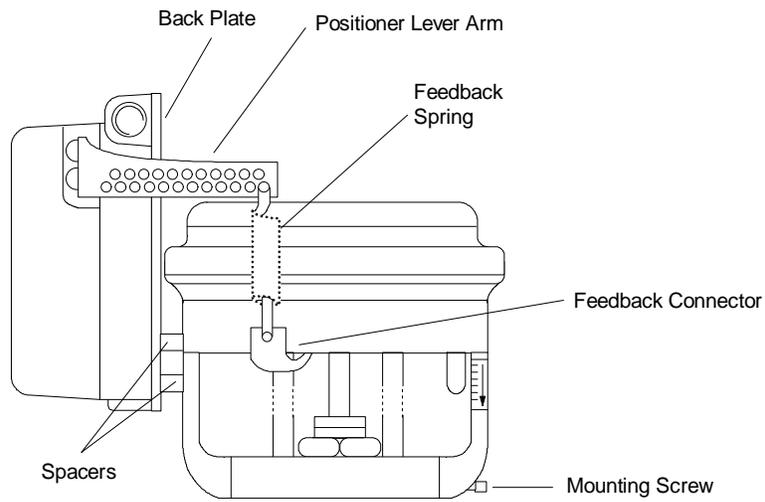

Figure 3: Actuator Fittings
3. Using a screwdriver, remove the V-3000-8001 Actuator from the valve by loosening the mounting set screw. See Figure 3.
3. Using the two No. 10-24 screws and the two spacers, mount the positioner to the actuator through the two lower mounting slots of the positioner back plate (refer to Figure 3). Do not tighten the screws at this time.
6. Attach one end of the feedback spring to the first hole in the positioner lever arm and attach the other end to the feedback connector. See Figure 3.